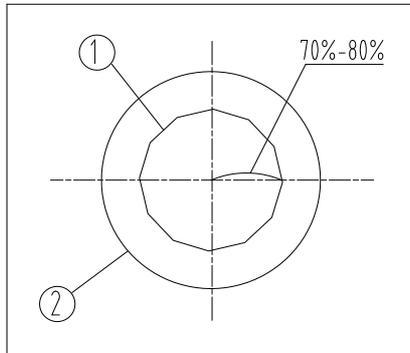

Fig. 13
2. As the contrast is usually low, rotate the handle (3) to make the arrowhead pointed to the related magnification position on condenser base (4), namely, to adjust the N.A. of illumination to 70%-80% of the N.A. of objective. The eyepiece can be taken off when it's necessary to observe from the tube.
Adjust the ring (3) until see the figure as shown in Fig. 13, to adjust the proportion (see Fig. 13&14, (1) is the image of aperture diaphragm, (2) is the edge of objective).